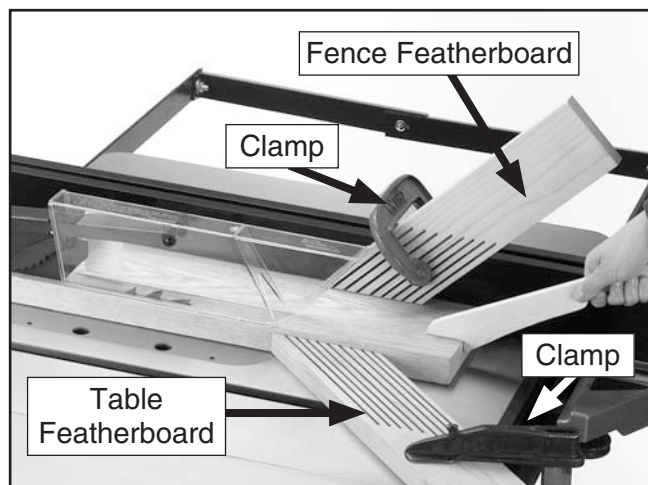

Figure 100. Example of featherboards secured with clamps.
3. Place a featherboard on the table away from the blade so all fingers point forward and contact the workpiece (see **Figure 100**).
6. Mount a second featherboard to the fence with another clamp (see **Figure 100**), then repeat **Step 5** to ensure it is secure.